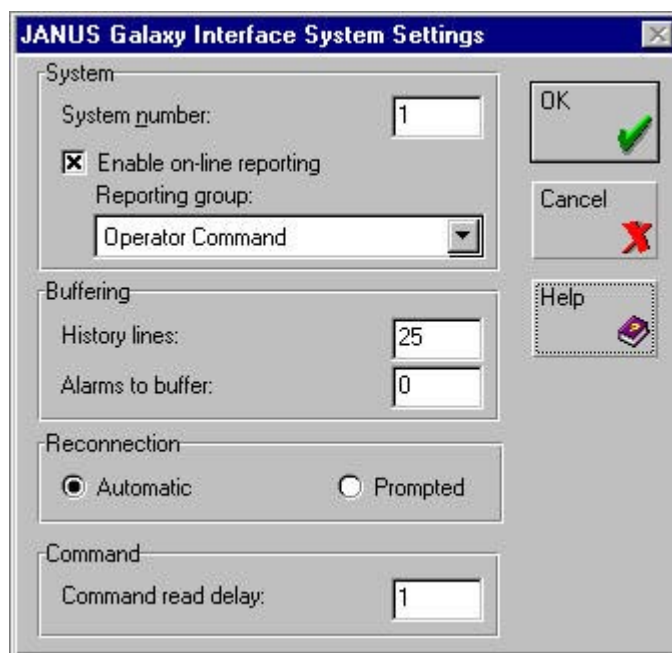

Figure 10. System settings dialog
2. From the menu bar, select **Settings • System...**, or press **F9**. The System settings dialog opens as shown in **Figure 10**. See **Table 10** for a description of the fields.